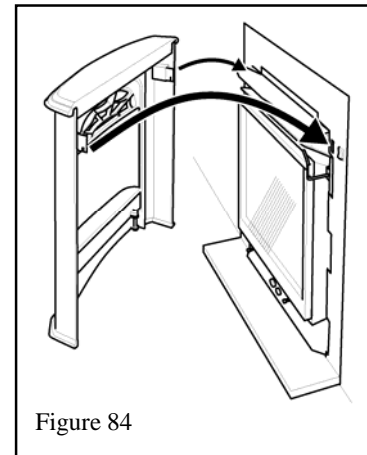

Figure 84
- **President ZC:** Unhook the front unit. **Lift the front by holding the decorative grille.** **Don't lift by holding the top.** See figure 84.